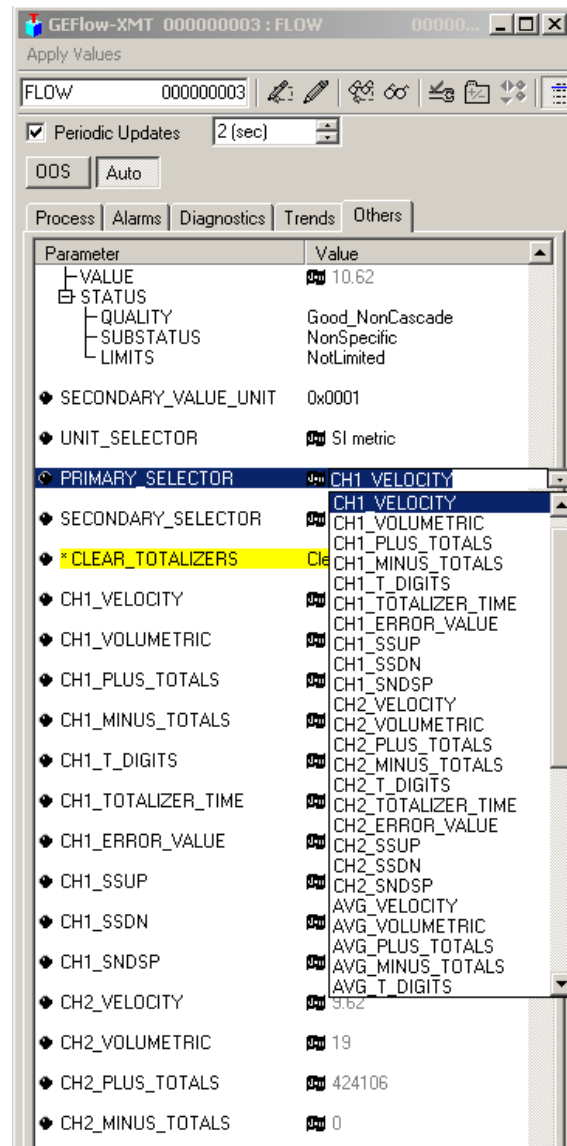

Figure 60: Primary selector drop down list
2. Select the *others* tab and open the drop down list for the PRIMARY_SELECTOR and SECONDARY_SELECTOR (refer to Figure 60 on page 86).
3. Choose the unit from the list (see Figure 60 on page 86).
4. After the desired measurements have been selected for the PRIMARY and SECONDARY_SELECTOR, choose the unit system (UNIT_SELECTOR above the PRIMARY_SELECTOR) that was programmed in the flowmeter (English or SI), as shown in Figure 60 below.